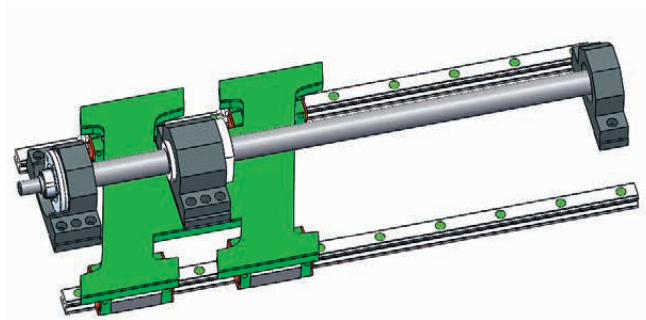

Fig. 4.18 Ballscrew at the left stop for aligning the fixed bearing
- Move the application as close as possible to the fixed bearing (see Fig. 4.18).